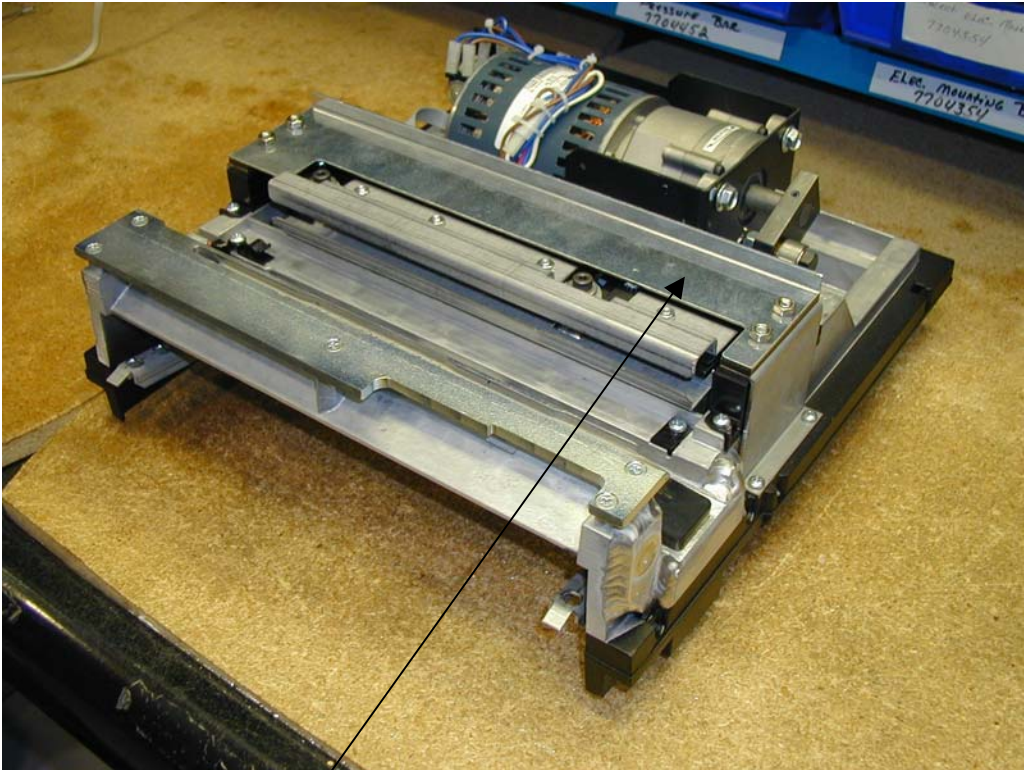

Figure 3 Tie Bar
10. Install the new Tie Bar on top of the Z Bracket Spacers. The cutout in the Tie Bar should be toward the front of the machine. Installation of the new Tie Bar is shown in Figure 3.
11. Install qty. (4)  $\frac{1}{4}$ "-20 Nylock nuts on the studs.
13. Reinstall the qty. (4) 10-32 socket head cap screws that hold the front housing in position.
15. Reinstall the qty. (4) 10-32 socket head cap screws that hold the rear housing in position.